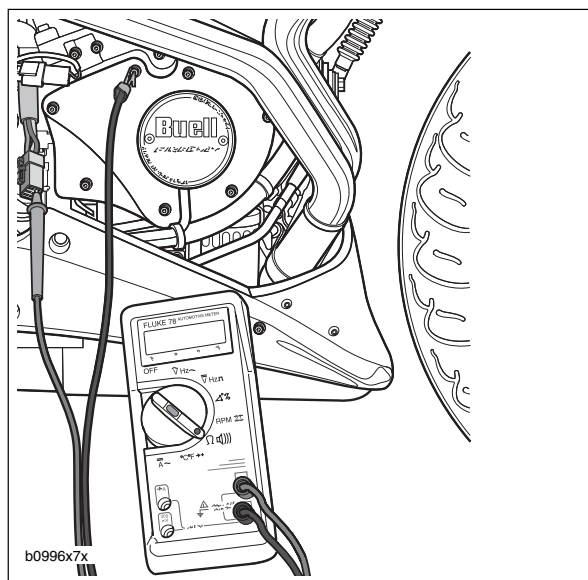

Figure 7-29. Test for Grounded Stator
2. See Figure 7-29. Connect an ohmmeter.